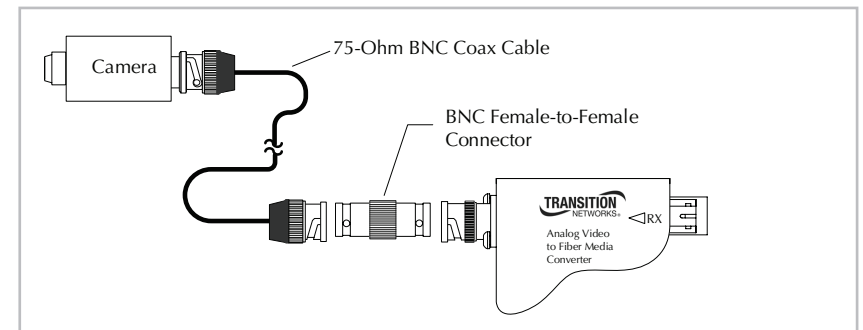

Figure 8: Camera Connected to Transmitter via BNC Coax Cable
The camera can be mounted directly to the transmitter or connected via a 75-ohm coax cable with a BNC connector on both ends. When connecting via a 75-ohm coax cable, a BNC female-to-female coupler is required. See Figure 8.
2. Locate a BNC female-to-female coupler. See Figure 8.
3. Insert the BNC female-to-female coupler into the transmitter, shown in Figure 8.
5. Insert the other end of the BNC coax cable into the camera. See Figure 8.